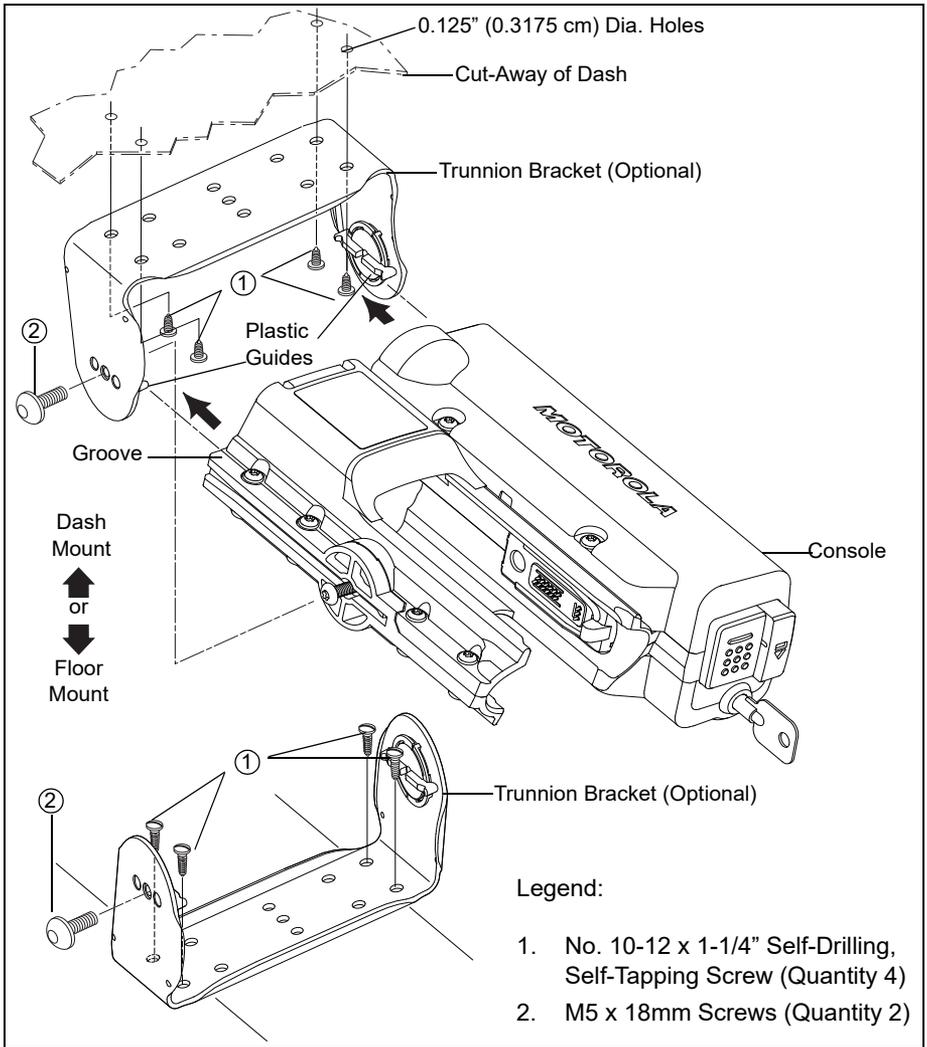

Figure 2: Console Installation Detail
Referring to Figure 2, install the console using the following procedure, or modify the procedure as necessary to conform to the vehicle type. Using the optional trunnion (“U”) bracket as a template, drill the mounting holes and mount the bracket with the hardware supplied (see Figure 2).
2. Ensure that the plastic guides of the trunnion are aligned (horizontally) with the corresponding grooves of the console (see Figure 2). Slide the APX VA console into the plastic guides until it reaches the mechanical stop. Verify that the holes in the trunnion bracket are aligned with the holes on the APX VA.